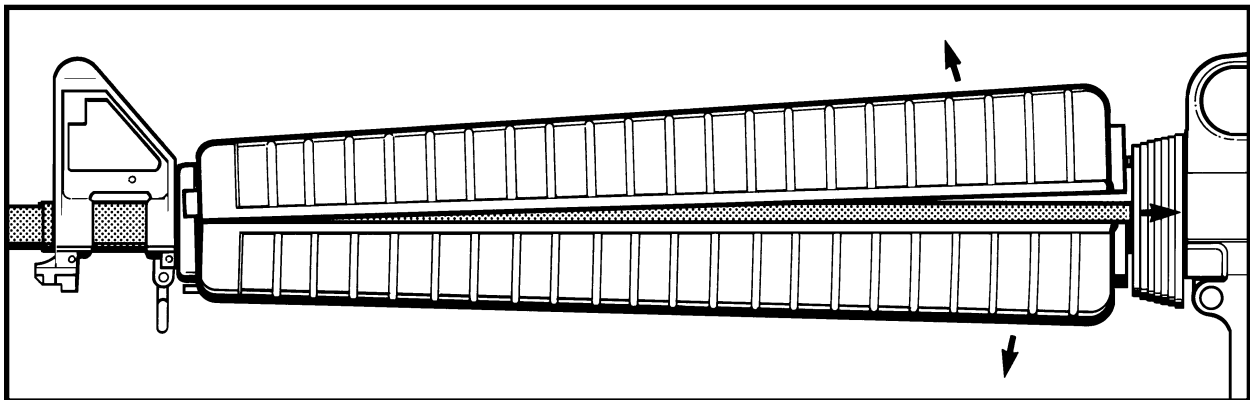

Figure 3-2-9 Removing the Handguards
- (1) Support the upper receiver and barrel group vertically on a work bench with the compensator pointing upward;
- (2) Pull downward on the handguard slip ring; and
- (3) Rotate the rear end of the handguards outward and down to disengage each one in turn from the handguard cap. See Figure 3-2-9.